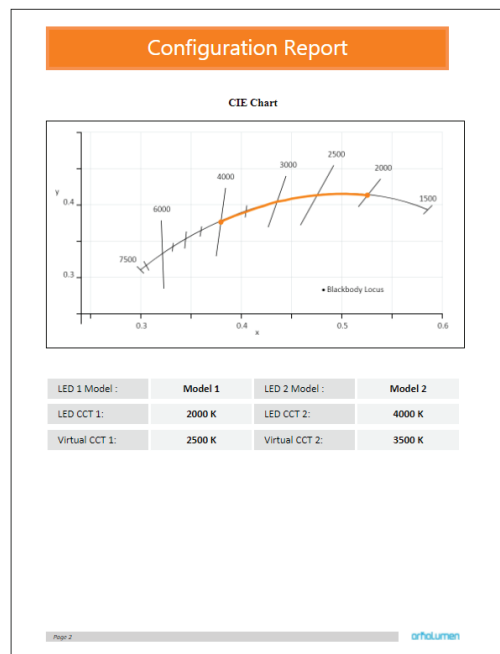

Figure 17: Example of the second page of a generated report
- 5 Input the starting and finishing rows and columns that will fit on the back or front labels. The selected range is highlighted in blue (Figure 17).